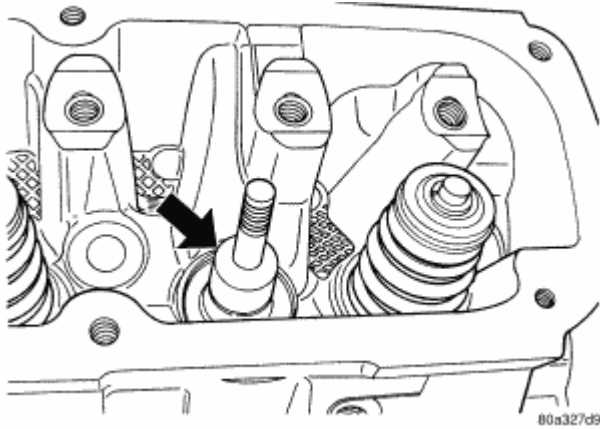

Fig. 98: Identifying New Valve Seal
3. Install new seals on all valve stems and over valve guides Install valve springs and valve retainers. See **Fig. 98**